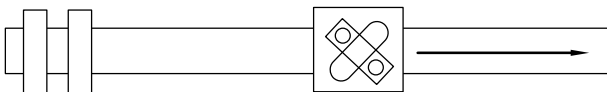

Figure 2
**Tension Loads** — Those loads where the force pulls on the bearing and its support. (Refer to Figure 2.) Where practical, applications should be designed to function with the load in tension to achieve the widest possible selection of screw sizes. Ball screws operating in both tension and compression may be preloaded between the support bearings or mounted per the guidelines under Compression Loads.